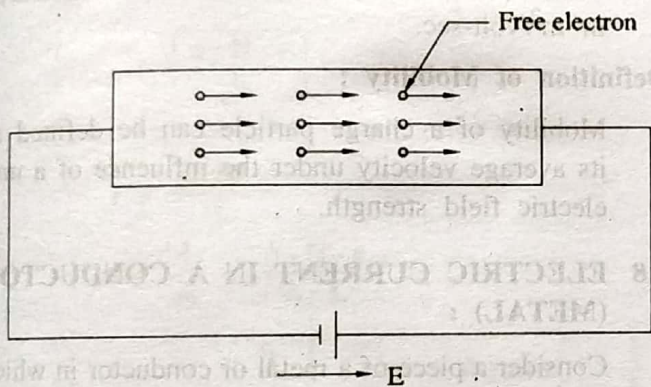

FIG. 1.9 : PRESENCE OF THE ELECTRIC FIELD - FREE ELECTRON
- The total energy of an electron is assumed to be purely Kinetic Energy (KE).
- On the other hand, suppose an electric field (E) is applied to the material through an external arrangement as shown in Fig. 1.9.